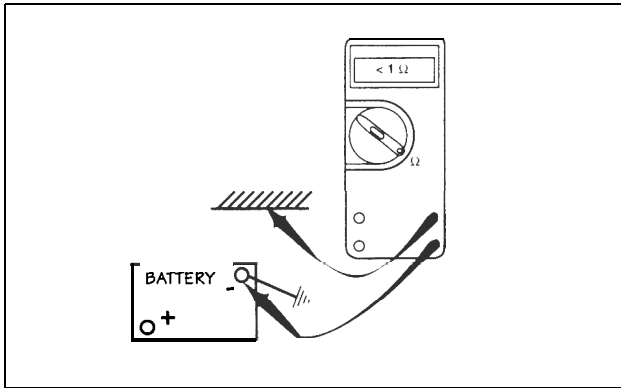
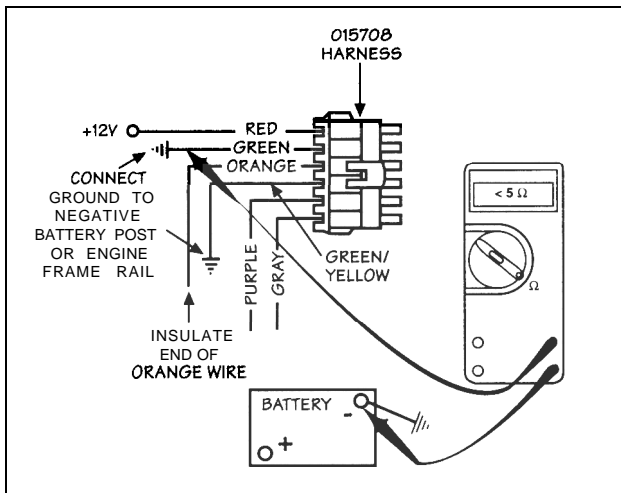

FIG. 1.1.28
FIG. 1.1.29
**Correction:** The resistance between the engine block and the negative terminal of the battery must be less than 1 ohm (Fig. 1.1.28). The resistance between the GREEN wire of the engine brake control module and the negative terminal of the battery must be less than 5 ohms for proper module operation (Fig. 1.1.29).